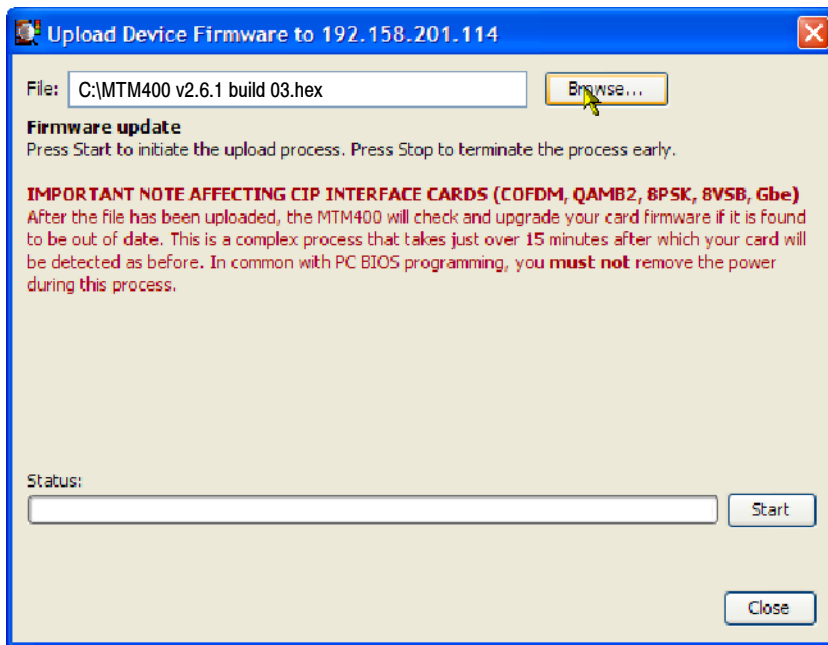

Figure 3: Upload Device Firmware dialog box
5. In the Upload Device Firmware dialog box (see Figure 3), enter the path and name of the firmware file or use the Browse button to locate and select the firmware file.